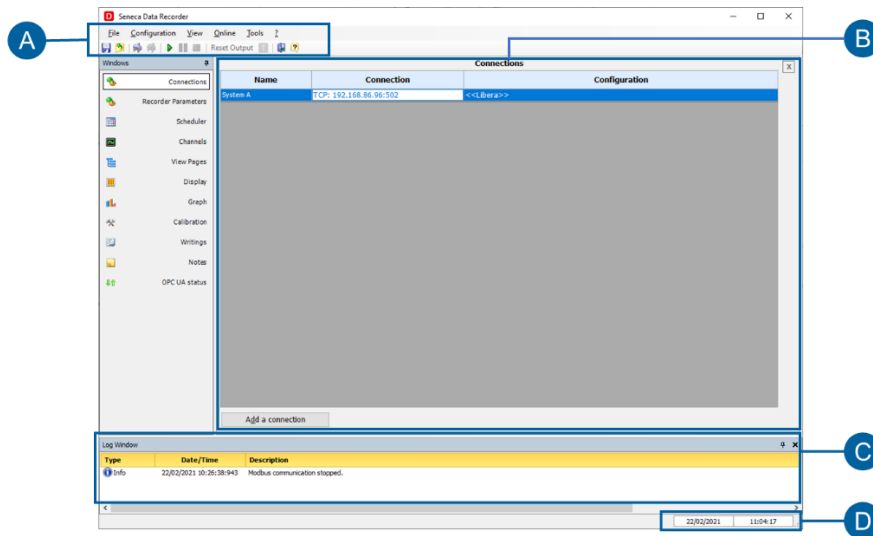

Figure 22. Common elements
A	Section where you can select and deselect the signalling groups you want to see in the "Log Window" (C) (Figure 22 page 29).
B	Section where you can select and deselect the signalling groups that you want to save in a file. (C) (Figure 22 page 29).